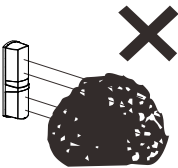

Fig 4
- (2) Do not install the device where trees, leaves or other objects witch may sway in the wind and block the beam, as shown in Figure 4;